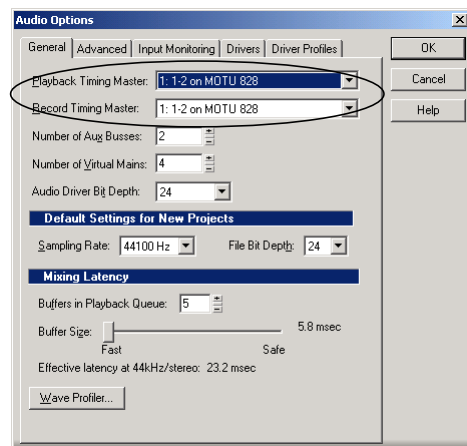

Figure 7-3: Make sure you have chosen a MOTU 828 input and output for the playback and recording timing master settings.
- 2 Choose a MOTU 828 input and output for recording and playback timing as shown below in Figure 7-3. It doesn't matter which input or output you choose.